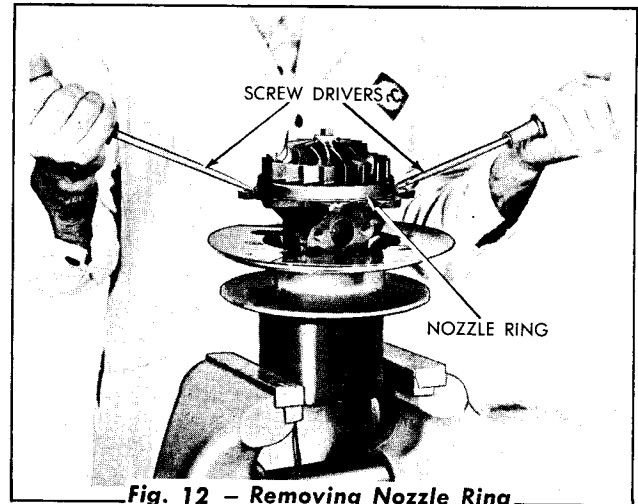

Fig. 12 - Removing Nozzle Ring
- b. Insert two screwdrivers (Fig. 12) on opposite sides and pry upward against flange. Move screwdrivers around periphery of ring to prevent tilting while prying nozzle ring off.